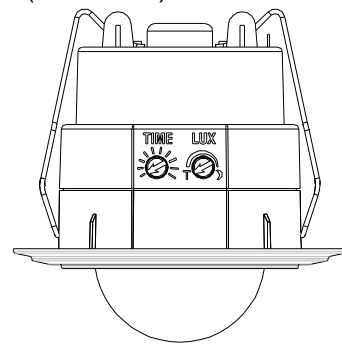

FIGURE 7
(1) TEST MODE
- n Turn the Lux control and the Time control counter-clockwise to the edge - the TEST position. (FIGURE 7)